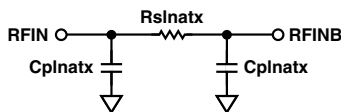

Figure 2. LNA Lumped-Element Model, Tx Mode
When the ADF7020 enters Tx mode, the Rx/Tx switch is closed, providing a low impedance path between pins RFIN and RFINB. For the design of the matching network, the LNA input impedance in Tx mode may be modeled as shown in Figure 2.
**Table 5. Elements of LNA Equivalent Circuit (Figure 2) in Tx Mode**